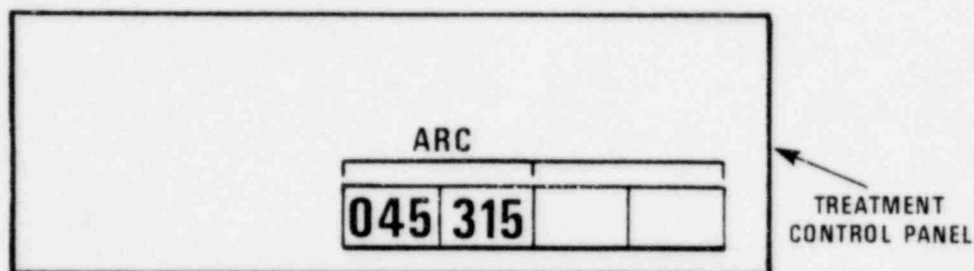

Fig. 4.2a
1. Adjust angle selectors to limits of treatment sector; e.g.,  $045^\circ$  and  $315^\circ$ . See Fig. 4.2a.